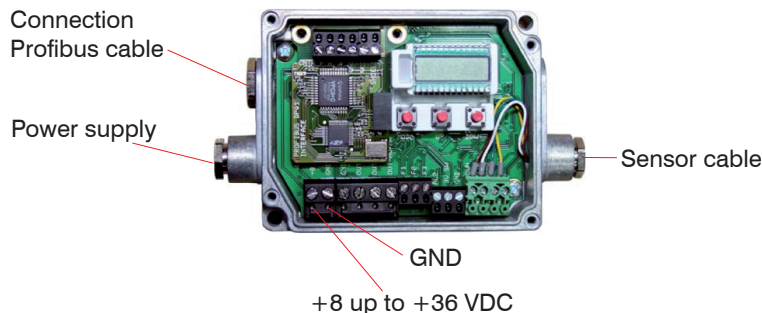

Fig. 20 Commissioning Profibus
- ➡ Open the controller and connect the power supply, see Fig. 20.